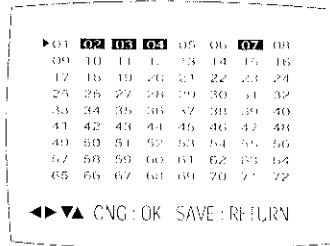

Fig. 6-3
- 4) Press the "1, 4" buttons on the remote control. The option setting is appears. (See Fig. 6-3)